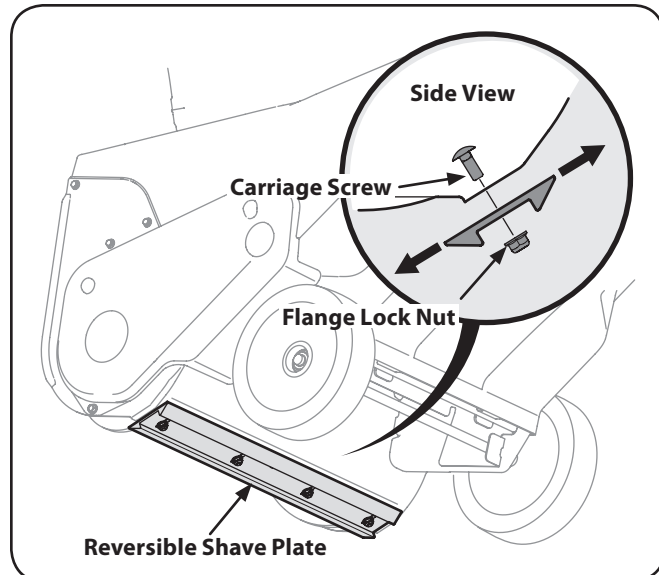

Figure 6-1
3. Loosen the four flange lock nuts and carriage screws which secure the shave plate to the housing. See Figure 6-1. Move the shave plate to the desired position and retighten the nuts and bolts securely.